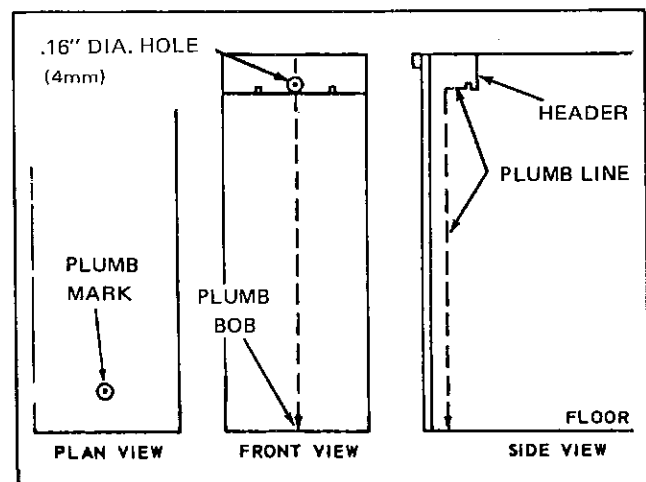

Figure 23. Plumbing Switchgear Units
will have a plumb mark stamped on the floor plate. This mark is located inside the breaker drawout compartment and is represented by a center punch mark with a circle around it. Directly above this mark is a .16" (4 mm) dia. hole in the header of the breaker compartment, as illustrated in Figure 23. Insert the plumb bob line through this hole toward the inside of the compartment, and tie off line with plumb bob hanging free. The point of the plumb bob must be within .12" (3.2 mm) of the factory installed plumb mark represented by the center punch. The circle around the punch has no meaning and is only an aid to locate the punch mark. All plumb readings should be taken with anchor bolts tight. If it is not within .12" (3.2 mm), it could be due either to unlevel sills or the cubicles being damaged in shipment. Check first to insure that sills are level. If sills are not level, add 4" x 4" (100 x 100 mm) steel shims on top of sill, adjacent to the anchor bolts, as necessary to achieve a level floor in all cubicles and to insure that all cubicles are in firm contact with the foundation at each anchor point. Tighten the anchor bolts. If plumb bob point is still not within .12" (3.2 mm) after floor leveling, proceed to step No. 5 below.
this mark is a .16" (4 mm) dia. hole in the header of the breaker compartment, as illustrated in Figure 23. Insert the plumb bob line through this hole toward the inside of the compartment, and tie off line with plumb bob hanging free. The point of the plumb bob must be within .12" (3.2 mm) of the factory installed plumb mark represented by the center punch. The circle around the punch has no meaning and is only an aid to locate the punch mark. If the plumb bob reading exceeds the .12" (3.2 mm) limitation, does the position of the deviation in each end breaker cubicle read the same direction and approximately the same distance from the punch mark? If this condition exists it would normally indicate that the slab, piers or pilings, as the case may be, are not level and/or are not in the same plane. The addition of shims between foundation and the bottom of the beam should bring shipping group to level showing plumb reading within the .12" (3.2 mm) tolerance. Note all plumb readings are to be taken with anchor bolts tight.
4. The switchgear equipment represented was accurately aligned on level steel bed plates at the factory. This care insures proper operation and fit of mating parts. supporting surfaces for the switchgear's 4 x 6 (101.6 x 152.4 mm) beams must be level and in the same plane within .06" (1.6 mm). If concrete, grouted channels, pier support plates, etc. do not meet this requirement, or if there is any projection higher than the support points in line with beams, shims must be installed in the following manner to provide equivalent true surface for switchgear support. 5kV and 15kV outdoor switchgear groups which have been assembled on 4 x 6 (101.6 x 152.4 mm) beams must be supported along these beams with the maximum span between support points not exceeding nine (9) feet (2743 mm). When switchgear line-up includes 1000 MVA breakers this maximum span must be decreased to six (6) feet (1830 mm). If shims are required use 4" (100 mm) square strips placed between bottom of beam and foundation, in the anchor bolt area where they will be clamped firmly in place.
6. The first breaker cubicle in from each end of every shipping group will have a plumb mark stamped on the floor plate. This mark is located inside the breaker drawout compartment and is represented by a center punch mark with a circle around it. Directly above this mark is a .16" (4 mm) dia. hole in the header of the breaker compartment, as illustrated in Figure 23. Insert the plumb bob line through this hole toward the inside of the compartment, and tie off line with plumb bob hanging free. The point of the plumb bob must be within .12" (3.2 mm) of the factory installed plumb mark represented by the center punch. The circle around the punch has no meaning and is only an aid to locate the punch mark. If the plumb bob reading exceeds the .12" (3.2 mm) limitation, does the position of the deviation in each end breaker cubicle read the same direction and approximately the same distance from the punch mark? If this condition exists, it would normally indicate that the slab, piers or pilings, as the case may be, are not level and/or are not in the same plane. The addition of shims between foundation and the bottom of the beam should bring shipping group to level showing plumb reading within the .12" (3.2 mm) tolerance. Note all plumb readings are to be taken with anchor bolts tight.